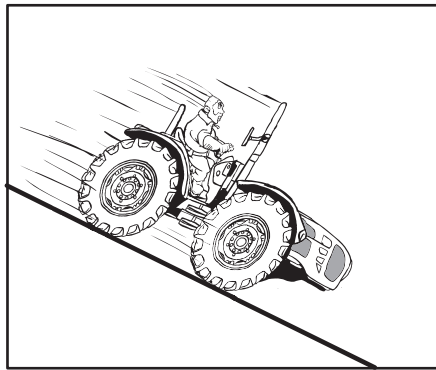

Fig. 2.22
- Engage a slow gear before starting downhill or uphill (Fig. 2.22).